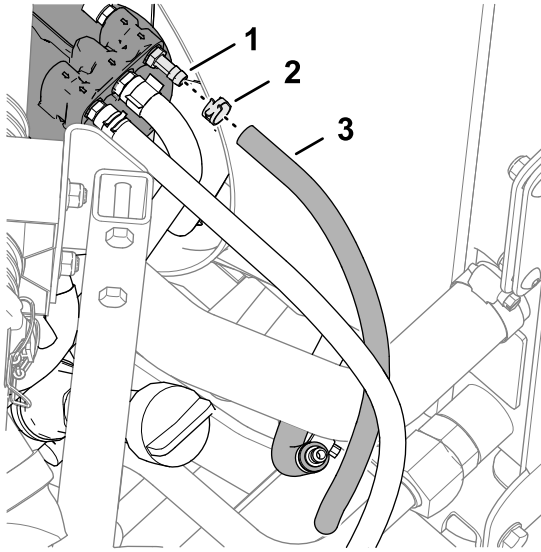

Figure 17
1. Assemble the fuel hose 6.4 x 457 mm (1/4 x 18 inches) onto the rearmost fitting of the fuel filter head with a spring-type hose clamp (Figure 17).